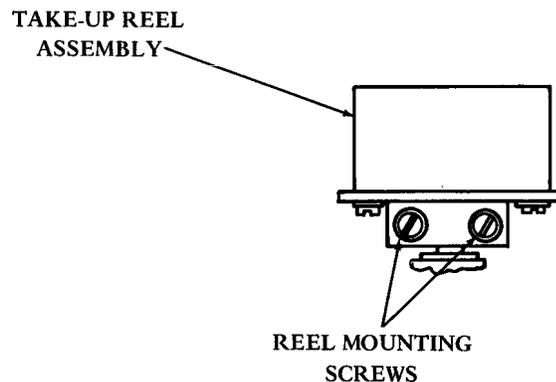

Figure 6 - Take-Up Reel
- (3) Loosen two take-up reel hub mounting screws (TP151687) (Figure 6) and remove hub.